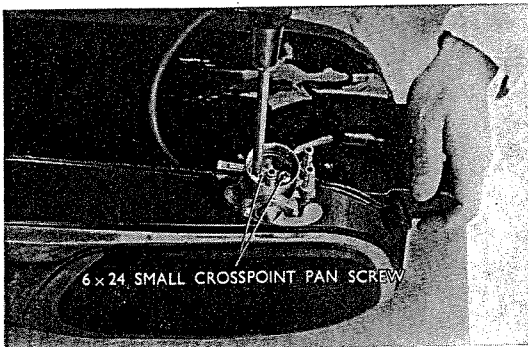

Fig. 4.32 Removing cock body
8. When the fuel strainer cap packing and the fuel strainer screen are removed, along with two 6×24 small cross point screws, the fuel cock body is separated from the fuel tank (complete). (Refer to Fig. 4.32)